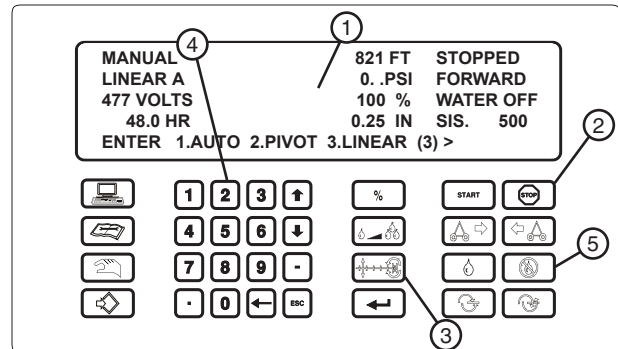

Figure 61-1 1. Control Panel Display. 4. Numeric Key.
- At the control panel, press . See figure 61-1.
- Press  and **2** to change the machine to the pivot mode. See figure 61-1.